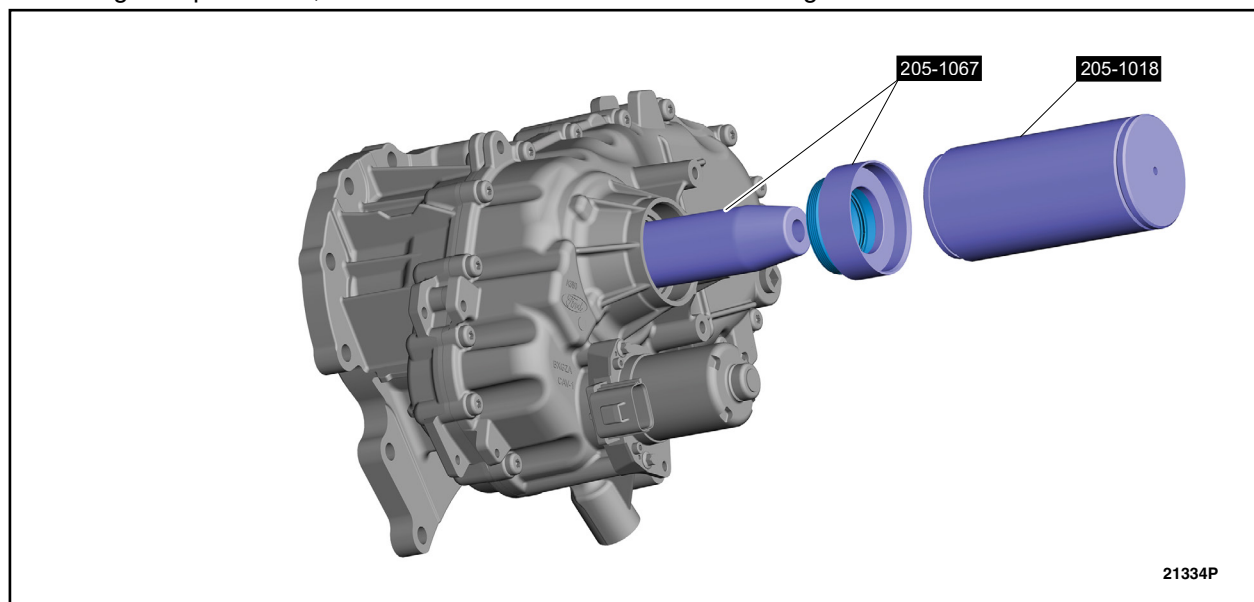

FIGURE 15
26. Using the special tool, install the transfer case rear seal. See Figure 15.